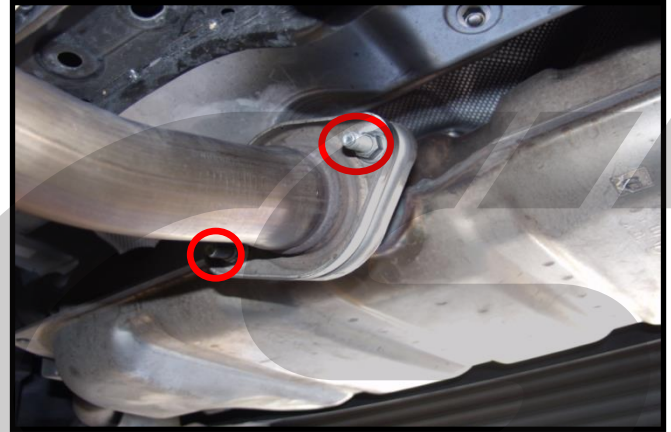

Figure 2a
- b) **Using a 14mm socket and end wrench, remove the two bolts and two nuts holding the factory exhaust to the cat pipe (bolts circled in Figure 2a).**